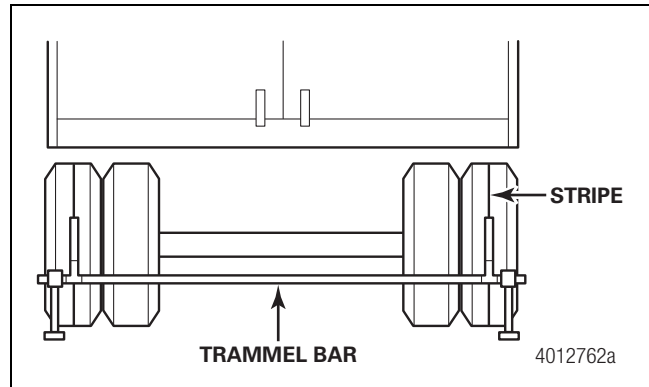

Figure 8.20
2. Put a trammel bar on the center of the paint stripes on each tire. Rotate each tire one complete revolution to mark a line on the tire outer surface. Figure 8.20.